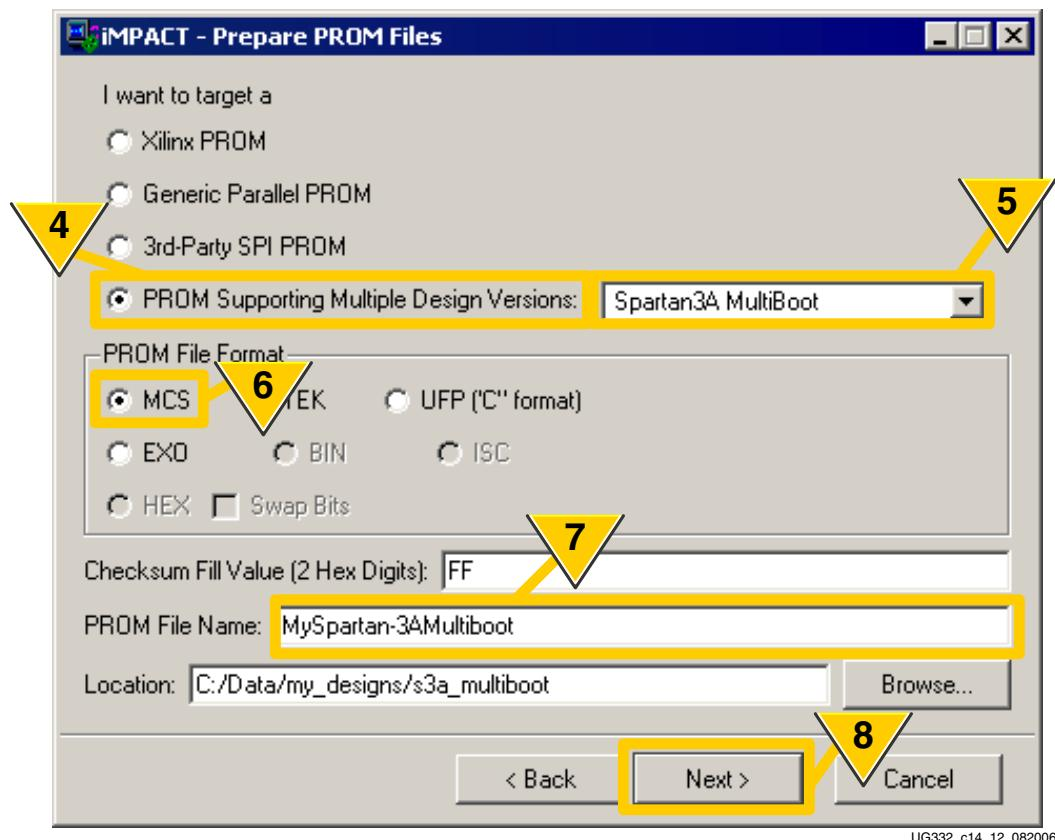

Figure 14-13: Select a PROM Supporting MultiBoot for Extended Spartan-3A Family FPGAs
4. As shown in Figure 14-13, target a PROM Supporting Multiple Design Revisions.